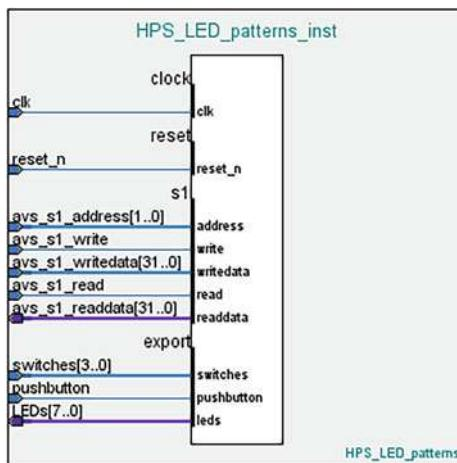

Fig. 6.4: HPS\_LED\_Patterns component in Platform Designer with signals interpreted correctly
- d: Click on the **Block Symbol tab**. You should see all the signals in your entity that have now been interpreted correctly as shown in Fig. 6.4.